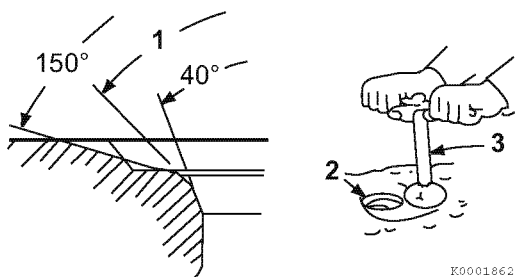

Figure 6-24
Light cutting can be performed by the use of a hand-operated cutter (**Figure 6-24, (3)**).
The valve seat diameter can be adjusted by top-grinding with a 150° stone to make the seat diameter smaller, and bottom-grinding using a 40° stone to make the seat diameter larger. Once the seat location has been corrected, grind and lap the seat angle (**Figure 6-24, (1)**) to specification. See *Cylinder Head* on page 6-4 for specifications.